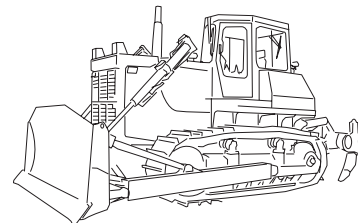

Figure 4-34
- Stop the vehicle on a level ground, and check the oil consumption in the track roller, carrier roller, and idler one by one. (Figure 4-34)